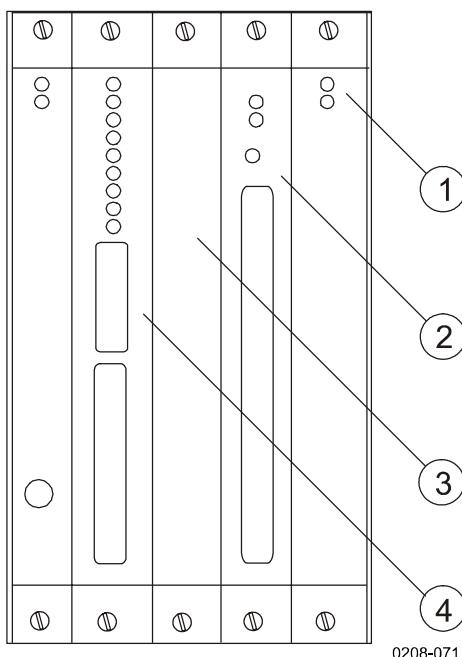

Figure 36 Boards of the DMF51 Board Frame
The boards of Board Frame DMF51 are shown in Figure 36 below. Replacement of boards does not require parameter settings except the Ceilometer Interface Board DCT52, the adjustments of which are described in section Parameter Settings of Ceilometer Interface Board DCT52 on page 142.
The following numbers refer to Figure 36 above:
2. Detach the two screws at the upper and lower end of the board front panel (Figure 36 above). Because the board frame is tightly
1. Plug the new board carefully into the corresponding slot (Figure 36 on page 141).